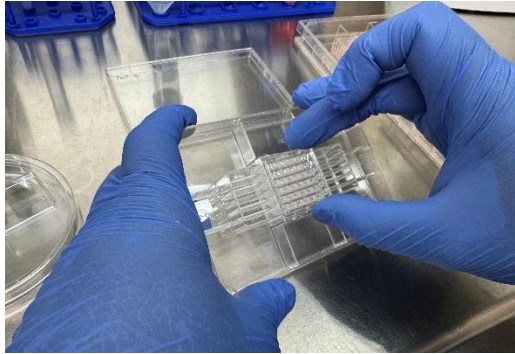

Figure 8. Reinserting the pillar plate onto the perfusion plate after old medium removal.
10. Carefully remove the pillar plate from the 36PetriLid (or 144PetriLid) and reinsert it onto the corresponding perfusion plate (**Fig. 8**).